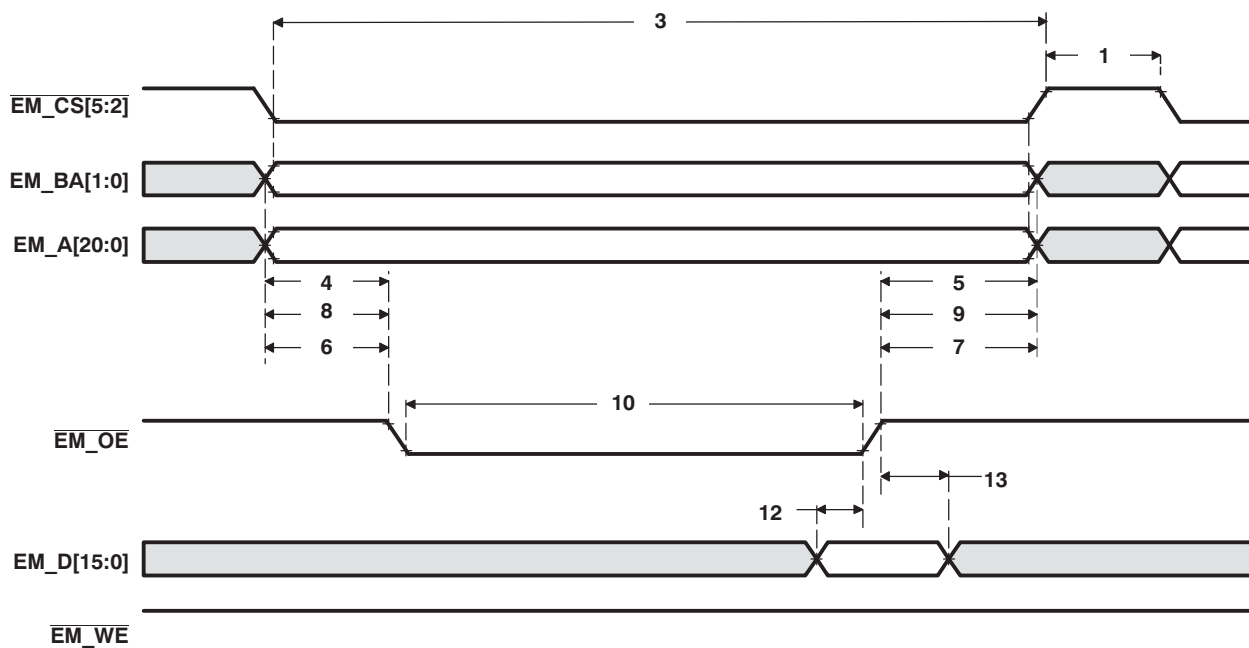
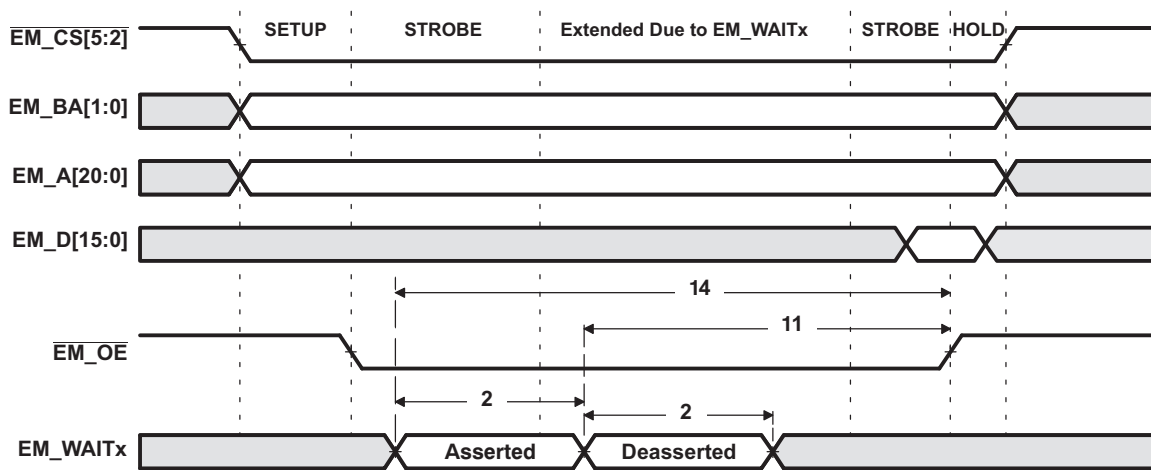
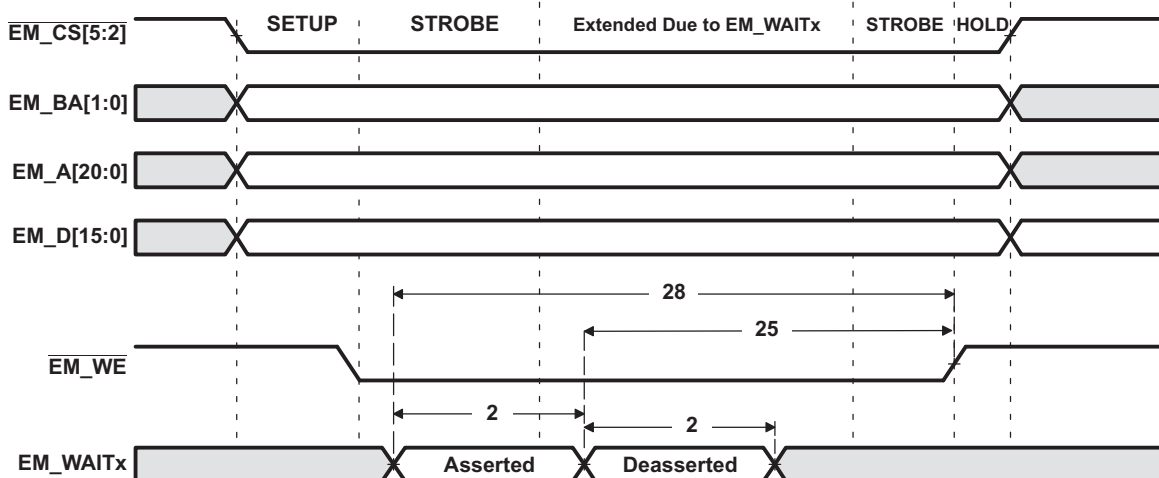

Figure 5-17. Asynchronous Memory Read Timing for EMIF
Figure 5-19. EM_WAITx Read Timing Requirements
Figure 5-20. EM_WAITx Write Timing Requirements
Table 5-19. Timing Requirements for EMIF Asynchronous Memory⁽¹⁾⁽²⁾ (see Figure 5-17, Figure 5-19, and Figure 5-20)
- (1) Timing parameters are obtained with 10pF loading on the EMIF pins.
(2) E = SYSCLK period in ns. For example, when SYSCLK is set to 100/120 MHz, E = 10/8.33 ns, respectively.
(3) Setup before end of STROBE phase (if no extended wait states are inserted) by which EM_WAITx must be asserted to add extended wait states. Figure 5-19 and Figure 5-20 describe EMIF transactions that include extended wait states inserted during the STROBE phase. However, cycles inserted as part of this extended wait period should not be counted; the 4E requirement is to the start of where the HOLD phase would begin if there were no extended wait cycles.
Table 5-20. Switching Characteristics Over Recommended Operating Conditions for EMIF Asynchronous Memory^{(1)(2) (3) (4)} (see Figure 5-17, Figure 5-19, and Figure 5-20)
(1) Timing parameters are obtained with 10pF loading on the EMIF pins.
(2) TA = Turn around, RS = Read setup, RST = Read strobe, RH = Read hold, WS = Write setup, WST = Write strobe, WH = Write hold, MEWC = Maximum external wait cycles. These parameters are programmed via the Asynchronous Configuration and Asynchronous Wait Cycle Configuration Registers.
(3) E = SYSCLK period in ns. For example, when SYSCLK is set to 100/120 MHz, E = 10/8.33 ns, respectively.
(4) EWC = external wait cycles determined by EM_WAITx input signal. EWC supports the following range of values EWC[256-1]. Note that the maximum wait time before timeout is specified by bit field MEWC in the Asynchronous Wait Cycle Configuration Register.
Table 5-20. Switching Characteristics Over Recommended Operating Conditions for EMIF Asynchronous Memory^{(1)(2) (3) (4)} (see Figure 5-17, Figure 5-19, and Figure 5-20) (continued)